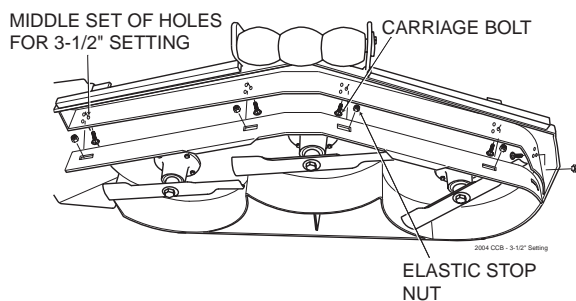

Figure 7. 3-1/2" Custom-Cut Baffle Position
- B. 3-1/2" Position (factory setting) - baffle is installed using the middle set of holes on the front baffle welded inside the cutter deck. (See Figure 7, Page 12). For general purpose cutting, place the Custom Cut Baffle in the 3-1/2" position. This gives the best mix of cutting performance in all types of grass.